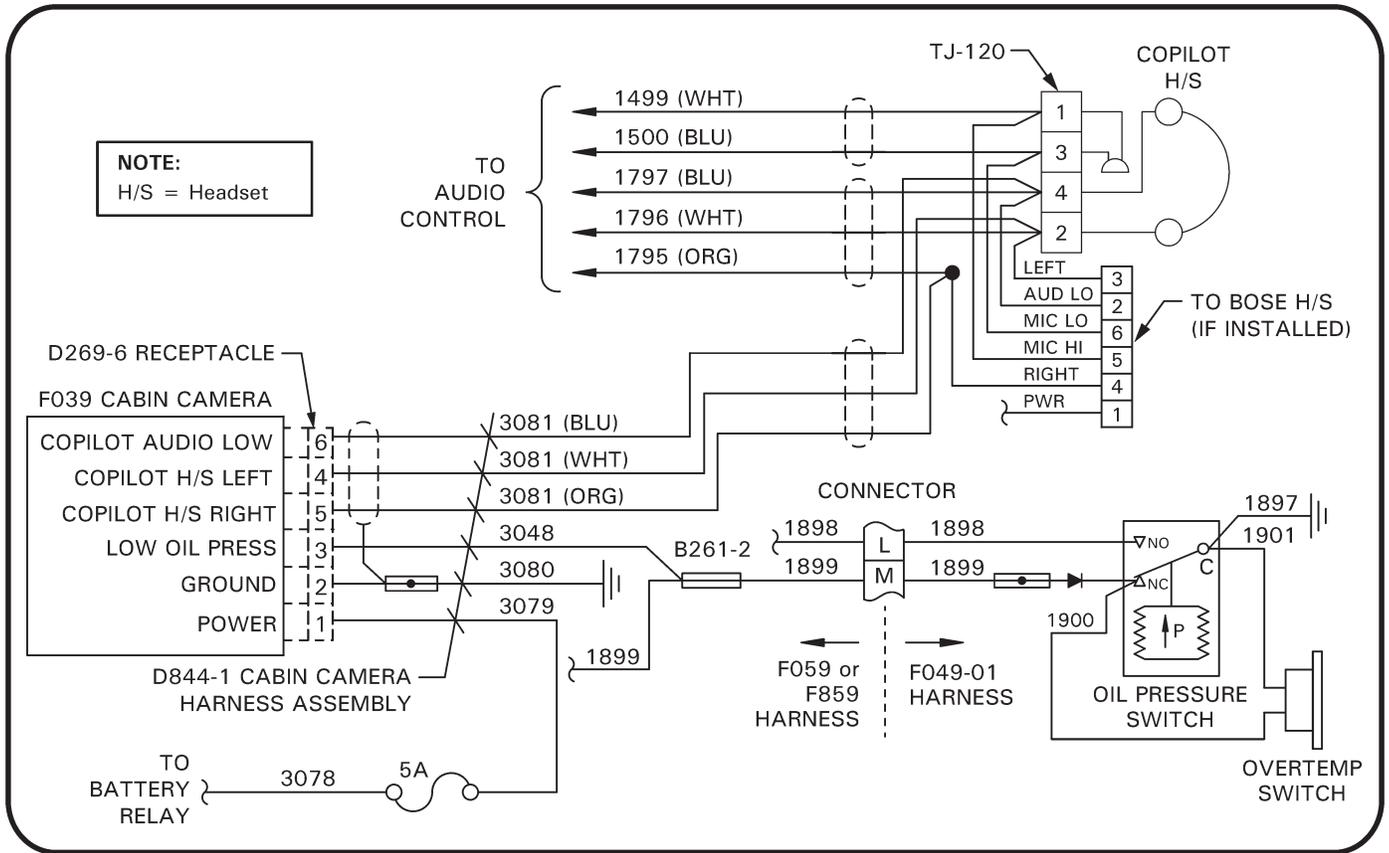

FIGURE 1 Wiring schematic
5. Refer to Figures 1 and 1A. Trim two 1/2-inch lengths of B158-3 heat shrink, and one 1-inch length of B158-2 heat shrink. Strip end of ORG, WHT, and BLU (-3081) wires.
7. Refer to Figure 2. Connect D844-1 harness assembly to camera plug in F039-2 enclosure assembly; secure connector using MS3367-4-9 ty-rap. Connect map light and air conditioning switch connectors to new duct assembly. Secure switch connectors together, under D797-9 strap (as shown in Figure 1), using appropriately-sized ty-raps. Cinch ty-raps until snug without over-tightening, and trim tips flush with head.